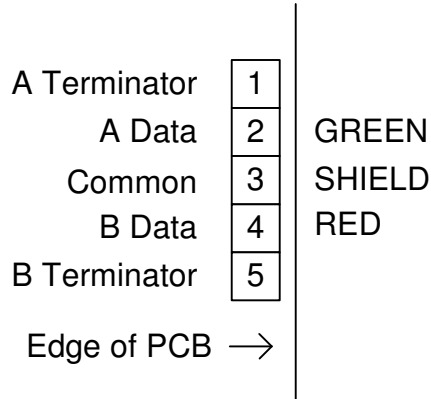

Figure 4 – Profibus Connections
- Correct Figure 4, A Data labeled incorrectly
- Correct figure 4